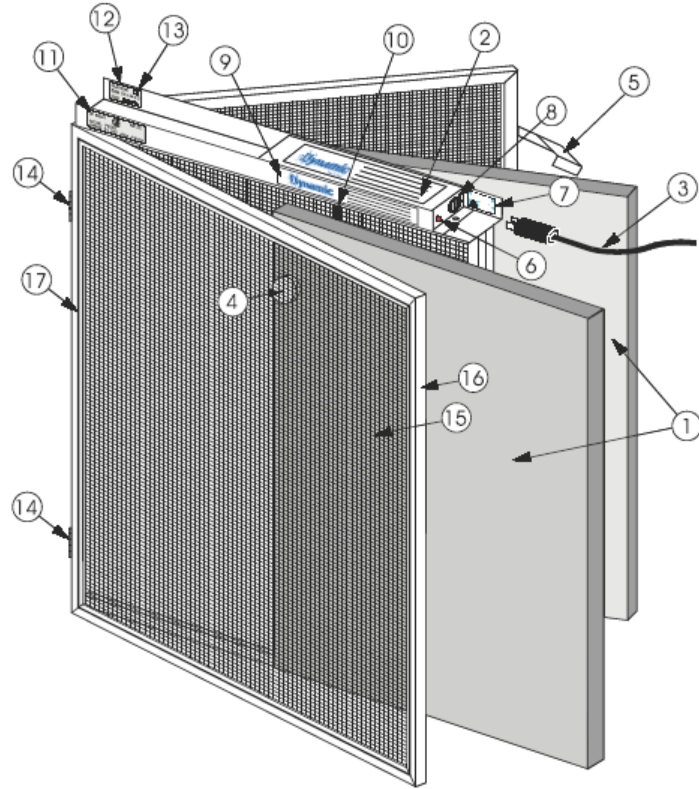

Figure 6
- 2) Replacement Media Pads can be ordered from your heating and air conditioning contractor or by ordering online at www.DynamicAQS.com. Have the model number or unit size available when calling. Refer to the size label on the unit (item 12 in figure 6) for the unit size. Air cleaner